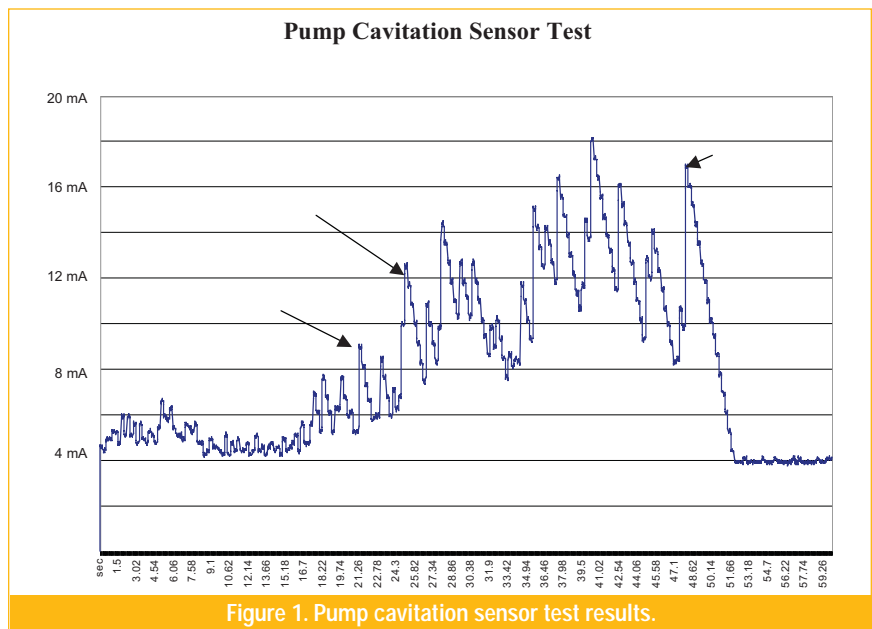

Figure 1. Pump cavitation sensor test results.
As the pump started, the sensor monitored the high frequency vibration signals, represented in Figure 1 by the section of the graph where the vibration level is just above the 4-mA level.
***Had a normal vibration transducer been used, Figure 1 would not show any changes in amplitude as cavitation began because the running speed of the pump would dominate the vibration signal, effectively masking the change in the high frequency signal.***
The complete data plot in Figure 1 shows the 4-mA to 20-mA loop signal output during the test run. Cavitation begins to appear at 21.26-sec. The pump is in full cavitation by 24.98-sec, before being manually shut down at 48.12-sec. The data indicates that the sensor detected initial evidence of cavitation at around 21-sec, when the vibration level first went above 8-mA, while easily detecting the presence of full cavitation at 25-sec. Normal pump running produced only a small increase in the vibration signal (0-sec to 18-sec) and the sensor output returned to the quiescent 4-mA after the pump shut down.
It is interesting to note that had a normal vibration transducer been used, Figure 1 would not show any changes in amplitude as cavitation began because the running speed of the pump would dominate the vibration signal, effectively masking the change in the high frequency signal represented above.